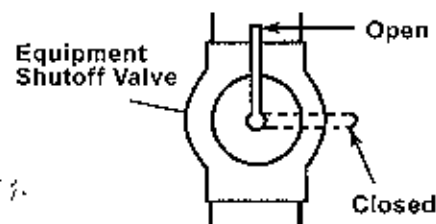

Figure 8 - Equipment Shutoff Valve
1. Open equipment shutoff valve (see Figure 8).
1. Close equipment shutoff valve (see Figure 8).